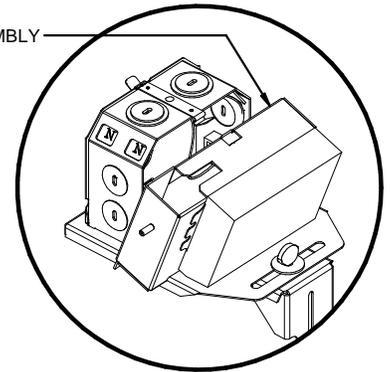

FIGURE 1
3. Unlatch the driver assembly from the J-Box (FIGURE 1). **NOTE: Do not disconnect wiring.**